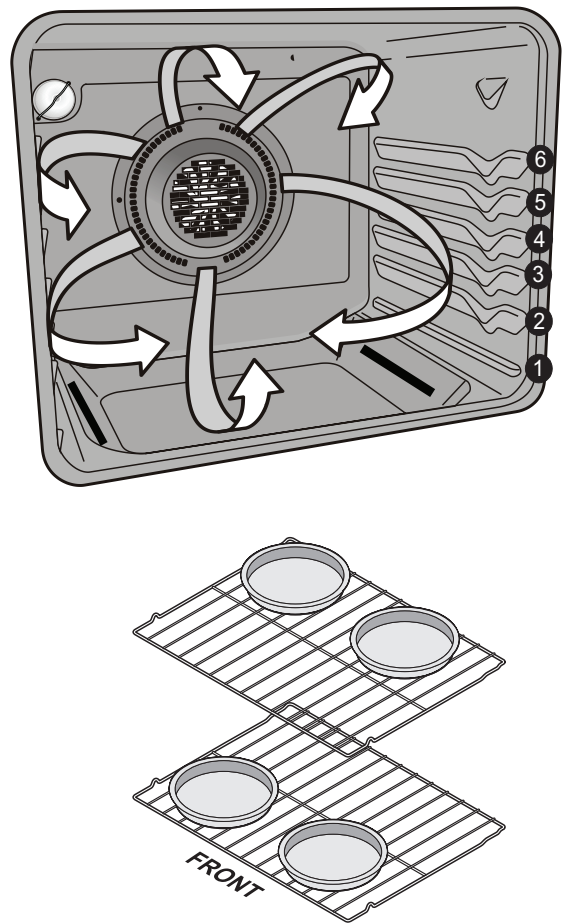

Figure 14: Rack positions and pan settings
- For best results when baking cakes using two oven racks, place racks in positions 3 with off-set rack and 5 using flat rack (See Figure 14).
- When baking using two oven racks, position cookware as shown in Figure 14.